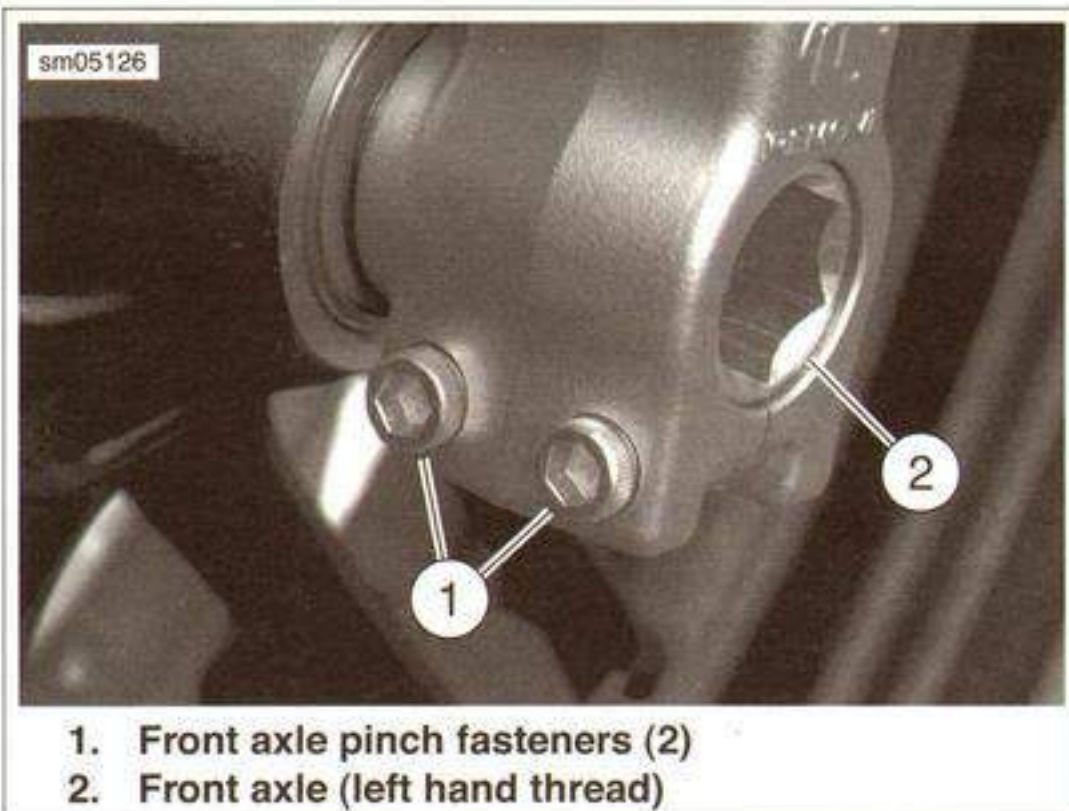

Figure 1-31. Front Wheel Mounting
4. See Figure 1-31. Loosen front axle pinch fasteners (1).
4. See Figure 1-31. Install front axle (2).
- b. With front wheel in place and pinch fasteners (1) loose. Insert threaded end of axle (2) through left side fork, wheel hub and thread into right fork.
- c. Tighten the axle (2) to 53-56 Nm (39-41 ft-lbs).
- d. Tighten the front axle pinch fasteners (1) to 27-30 Nm (20-22 ft-lbs).